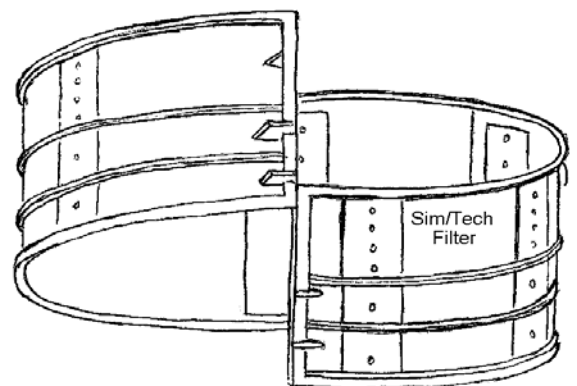

Figure 3.3
4. The last and final section will require the partially assembled riser to be torqued in order to fit dovetails together as described earlier (refer to Figure 3.3).